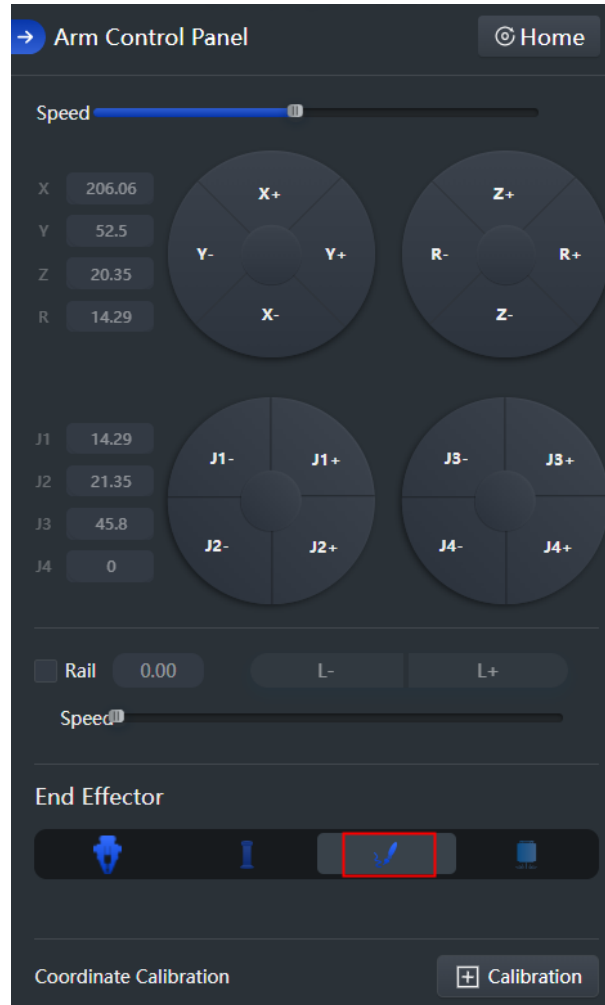

Figure 5.143 Set end-effector
- Step 1** Enter Teaching and Playback Lab. Select **Pen** from the end-effector module on the arm control panel, as shown in Figure 5.143.